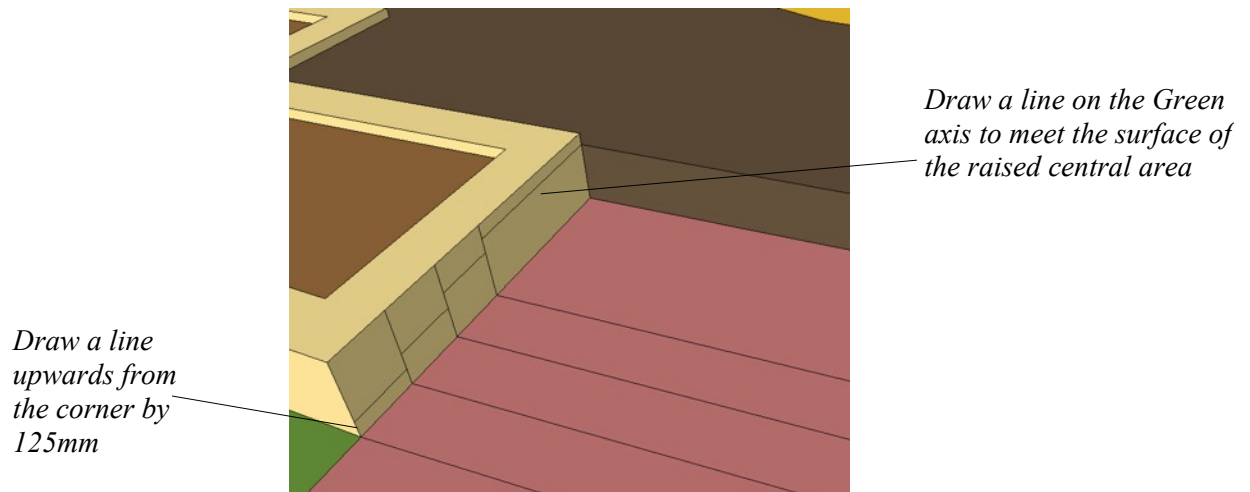

Figure 22. The outline of the steps
- Use **Zoom** to enlarge the to the area shown in Figure 22.
- From the corner draw a line in the Blue axis upwards by 125mm as shown in Figure 22.
- Draw a line from the end of the previous line in the Green axis to meet the vertical line as shown in Figure 22.
- Continue until the outline of 4 risers are formed and then draw a line in the Green axis to meet the raised central area as shown in Figure 22.